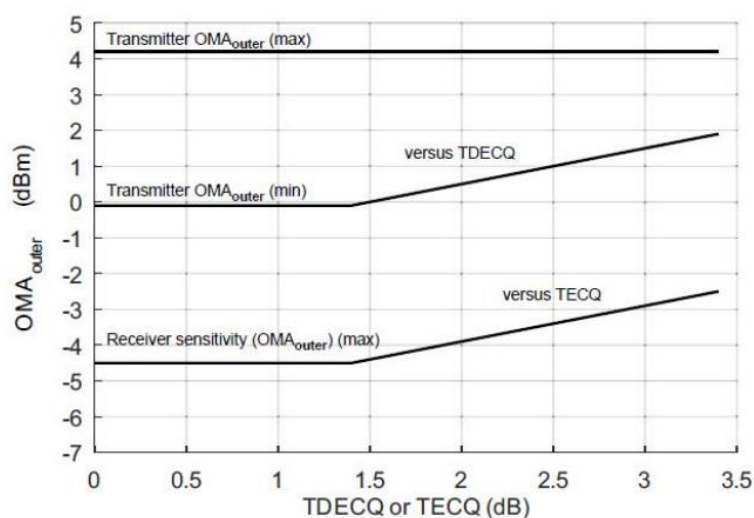

Figure 6. Illustration of Transmitter OMA_{outer} and Receiver Sensitivity Mask for 2x400G FR4
2. The values for OMA_{outer}(min) vary with TDECQ. Figure 6 illustrates this along with the values for OMA_{outer}(max).
5. Receiver sensitivity (OMA_{outer}) is informative and is defined for a transmitter with a value of TECQ up to 3.4 dB. Receiver sensitivity should meet Equation (1), which is illustrated in Figure 6.